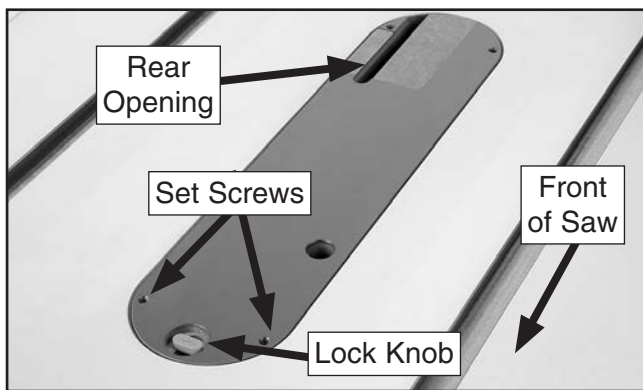

Figure 71. Insert knob in lock position.
3. Install the table insert, as shown in **Figure 71**.
—If you do not require your insert to have a zero clearance fit, especially if you need to make a range of compound cuts, you can modify the insert included with this saw. Continue with **Step 7**, then route the underside of the blade-cut slot to the same width as the rear opening (see **Figure 71**).